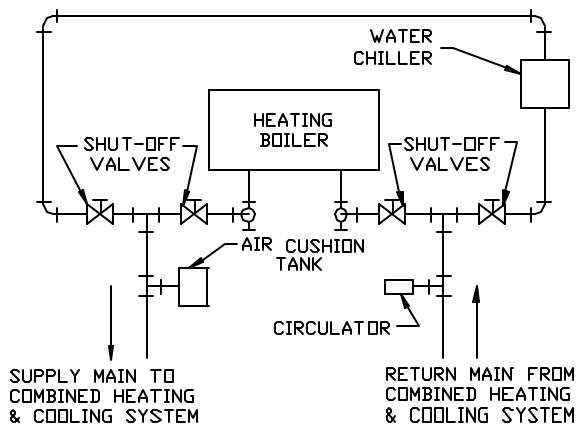

Figure 4: Recommended Piping for Combination Heating & Cooling (Refrigeration) Systems
G. If boiler is used in connection with refrigeration systems, boiler must be installed with chilled medium piped in parallel with the heating boiler using appropriate valves to prevent chilled medium from entering boiler, see Figure 4. Also consult I=B=R Installation and Piping Guides.